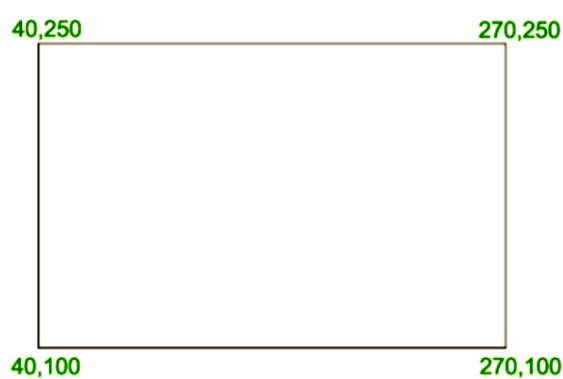

Fig.9.2
1. Using the Line tool construct the rectangle shown in Fig.9.2